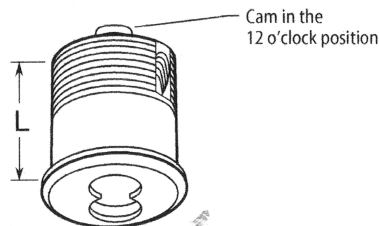

Figure 3 Turning the cam to the 12 o'clock position
- 2 Note the length "L" of the old cylinder. See Figure 3.
- 3 Turn the cam to the 12 o'clock position as shown in Figure 3.